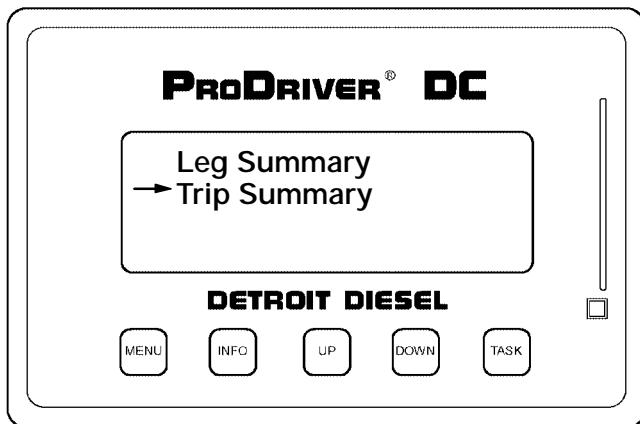

Figure 5-10 Driver Leg and Trip Summary Screen
- Leg Summary, **[INFO]** or Trip Summary, **[INFO]** (see Figure 5-10).
There are sixteen basic screens (pages) of information available to view in Driver Trip Summary. Once the first page of information has been accessed by selecting Trip Summary (see Figure 5-10), you can scroll through the pages by pressing [INFO], [UP], or [DOWN]. Press [MENU] to exit. The sixteen screens (pages) and the information included are shown in Figure 5-12, Figure 5-13, Figure 5-14, and Figure 5-15.